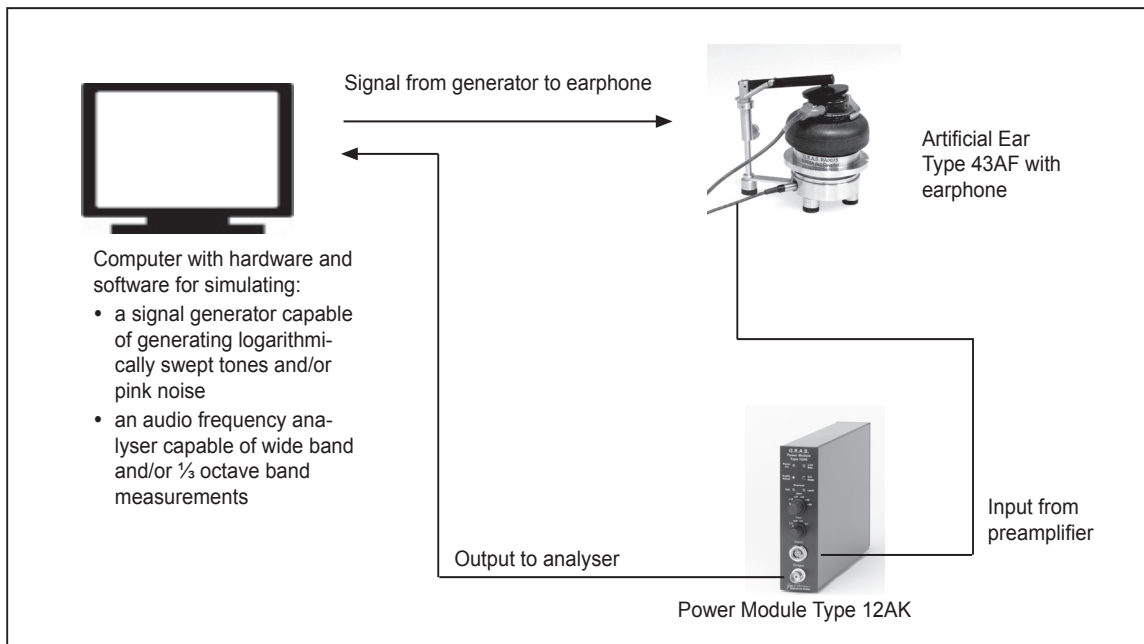

Fig. 6.3 Block diagram of a complete set-up for making tests
Items 3 and 4 could be combined in the same unit, e.g. a computer fitted with suitable hardware and software for A/D and D/A conversions in order to simulate both a signal generator and an analyser. Fig. 6.3 shows a block diagram of a possible set-up for making tests.
- 1) Setting up the test jig, e.g. as shown in Fig. 6.3